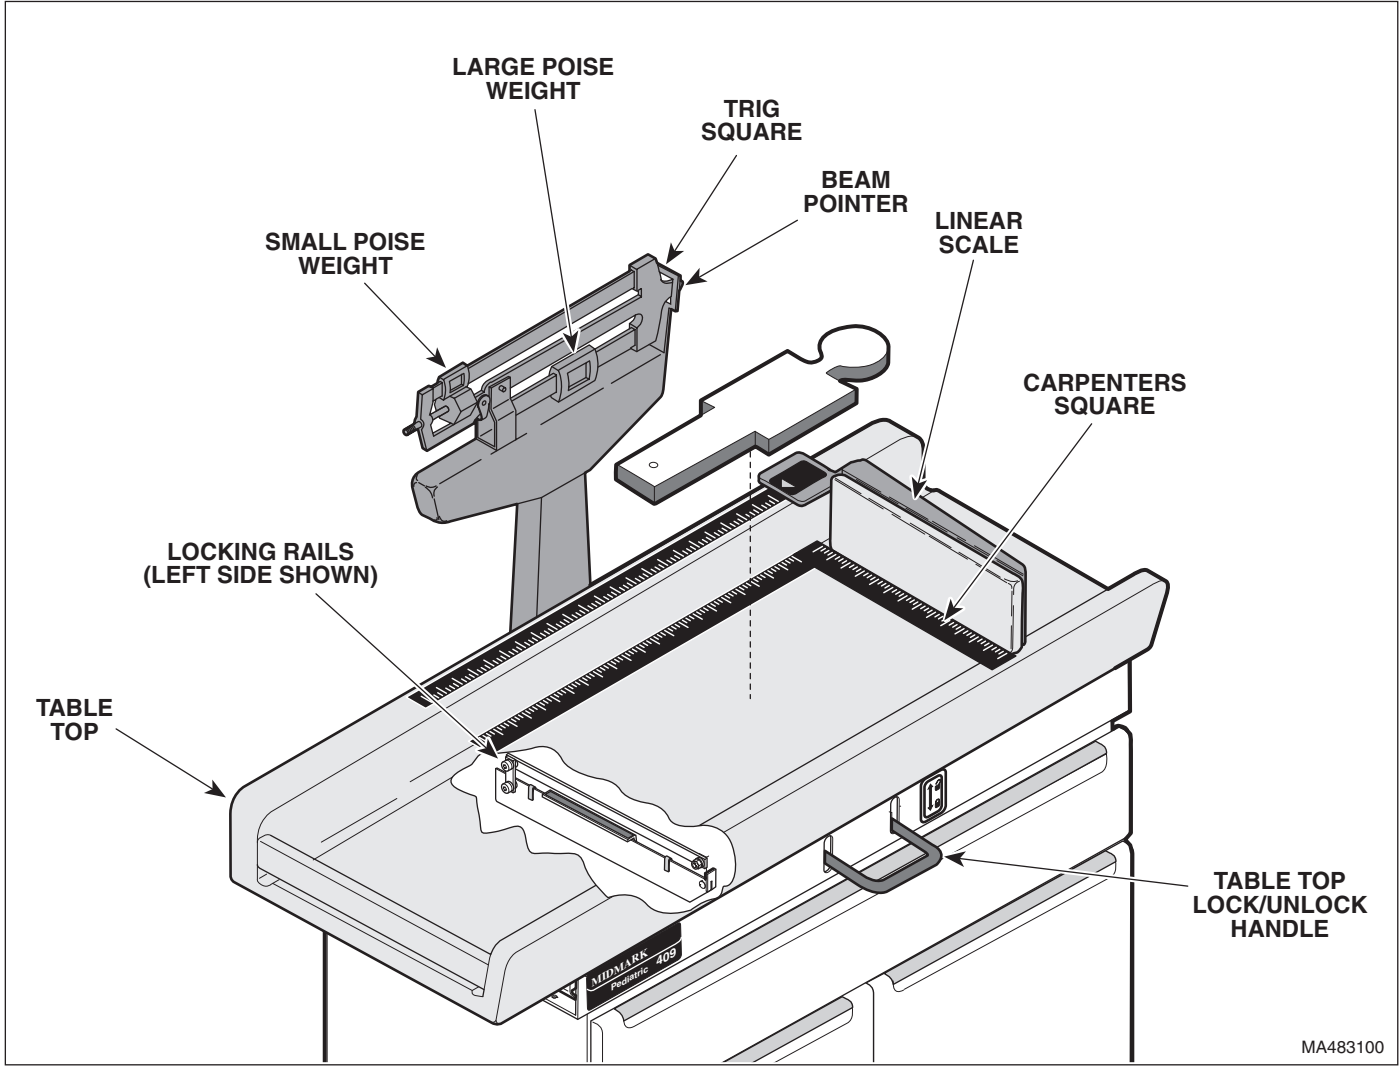

Figure 2-1. Operational Test (Models 309-001 Thru 309-004)
2.1 Operational Test (Models 309-001 thru 309-004) (See Figure 2-1)
- (1) Move table top locking handle to LOCK position. Attempt to move table top (See Figure 2-1).
- (2) Observe. The table top should be firmly locked into a stationary position.
- (3) Move table top locking handle to UNLOCK position.
- (4) Observe. The table top should not be locked into a stationary position anymore. Look between table top and base. There should be approximately a 1/4 in. (6.35 mm) gap between locking rails and bottom of table top; at the very least, there should not be any contact.
- (5) Push down on center of table top a few times to align and exercise all internal scale parts.
- (6) Remove any items from table top. Set large poise weight to zero, making sure it is seated in notch and set small poise weight to zero, making sure small poise weight is pushed firmly against shoulder of beam.
- (7) Observe. The beam pointer should balance in center of trig square, indicating scale is zeroed.